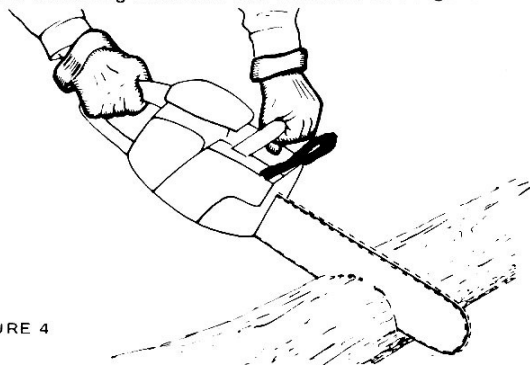

FIGURE 4
6. Always hold the chain saw firmly with both hands, using the left hand on the front handle and the right hand on the rear handle. When the engine is running use a firm grip with thumbs and fingers encircling the chain saw handles. See Figure 4.